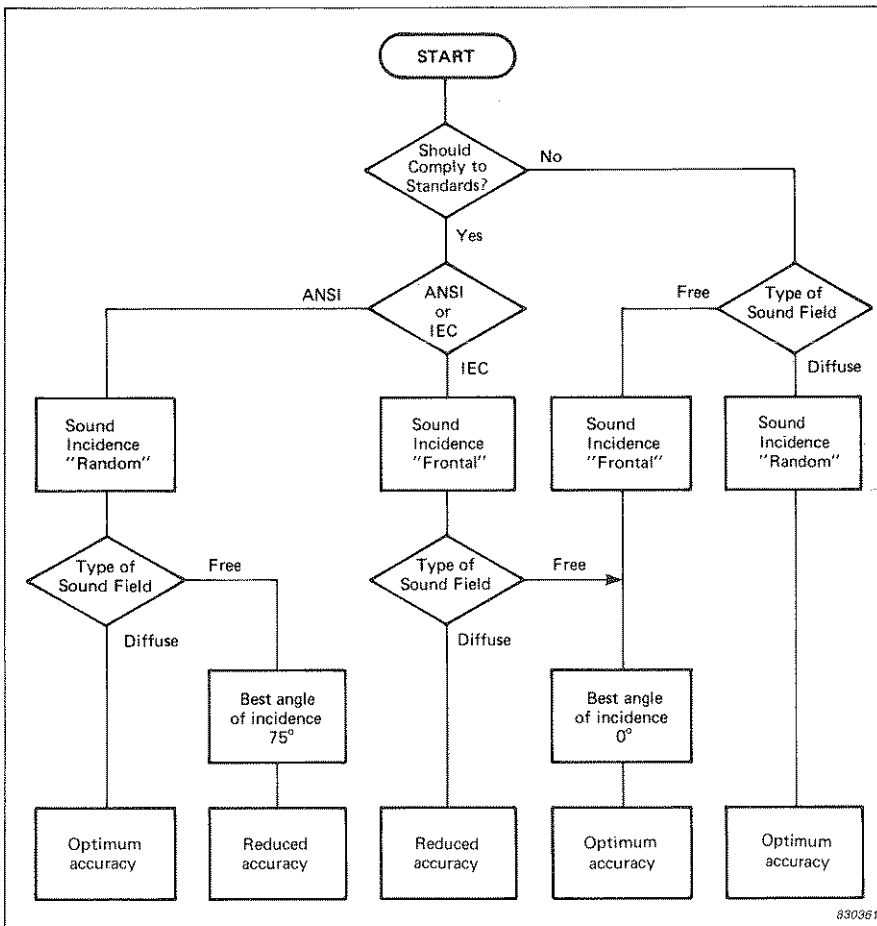

Fig. 8.1. Flow chart to help you choose either the Frontal or Random setting
Microphone Type 4155, the standard microphone for the Type 2231, has a linear free-field response for  $0^\circ$  sound incidence. Under diffuse-field conditions, you can obtain a linear response by correcting the microphone output. To do this, use the **Frontal/Random** pushkey (see section 3.6) which lets you select the proper sound incidence correction parameter. Fig. 8.1 helps you decide whether to use the **"Frontal"** or **"Random"** setting.
- For each setting of **Frontal/Random**, there will be certain conditions under which one setting will be less accurate than the other. To be as accurate as possible, follow the guidelines given in Fig. 8.1.